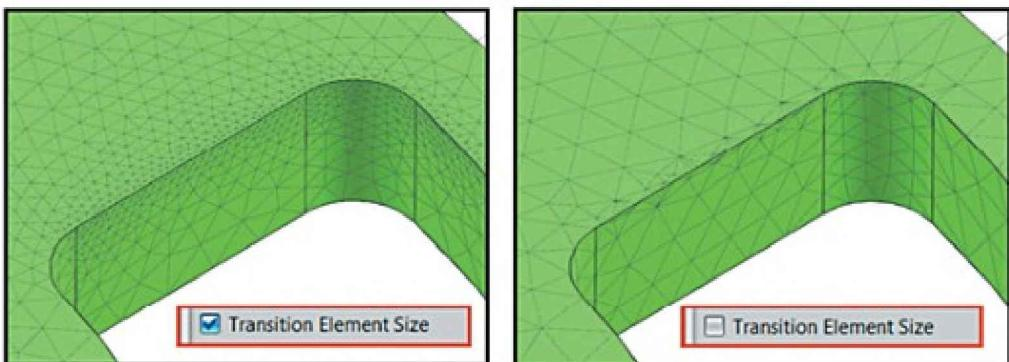

Figure 3.16. Element size based on curvature
- *Transition Element Size*: use this option to enable gradual transition from the local element size at the boundary, specified for example by the **Mesh Control** command, to the general size of elements for the selected body (Figure 3.16).